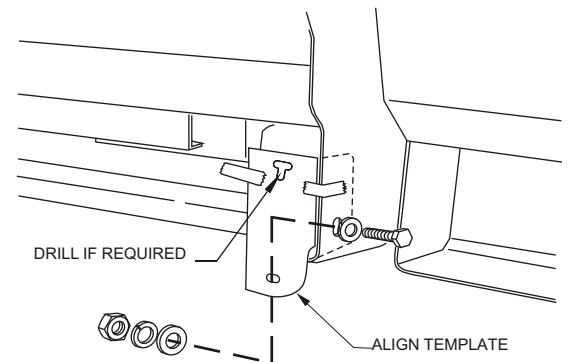

FIGURE 4
- STEP 3. Temporarily attach rear bracket to vehicle through hole as shown. **SEE FIGURE 4.** Carefully cut out templates and align with visible portion of rear bracket. Tape template in place and mark center of top hole with center punch. Remove template and bracket from vehicle. Drill 7/16" diameter hole at this location.